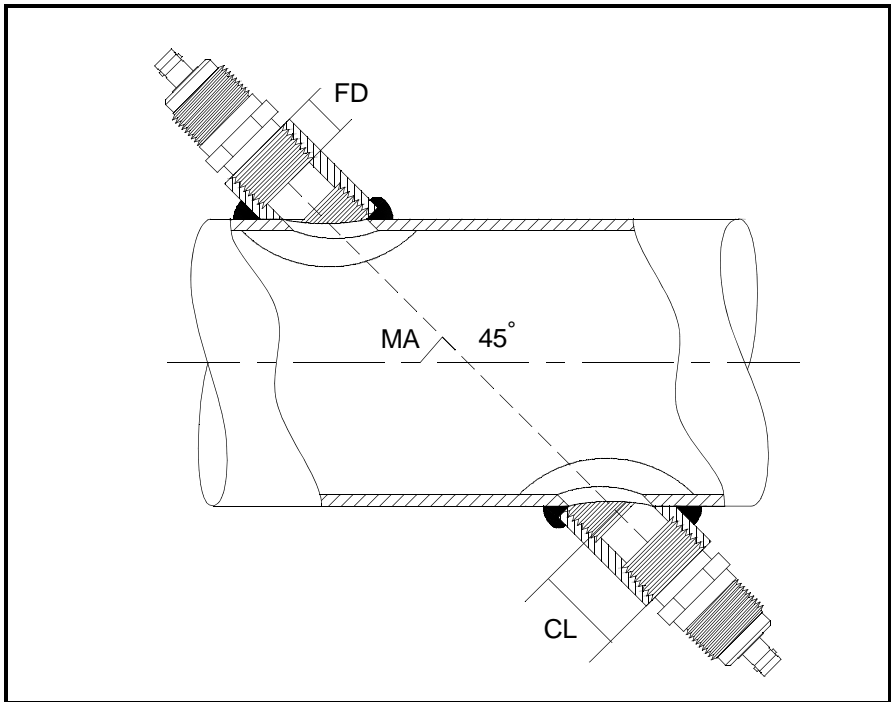

Figure 155: Determining the Pipe Coupling Length
- the pipe inside diameter (ID)
- the wall thickness (WT)
- the installed pipe coupling length (CL)
- the transducers face depth (FD)
- the mounting angle (MA)
Use Figure 155 below to properly measure the coupling length. Typically, the transducer face is positioned just outside the inside diameter (ID) of the pipe, or slightly retracted inside the coupling.